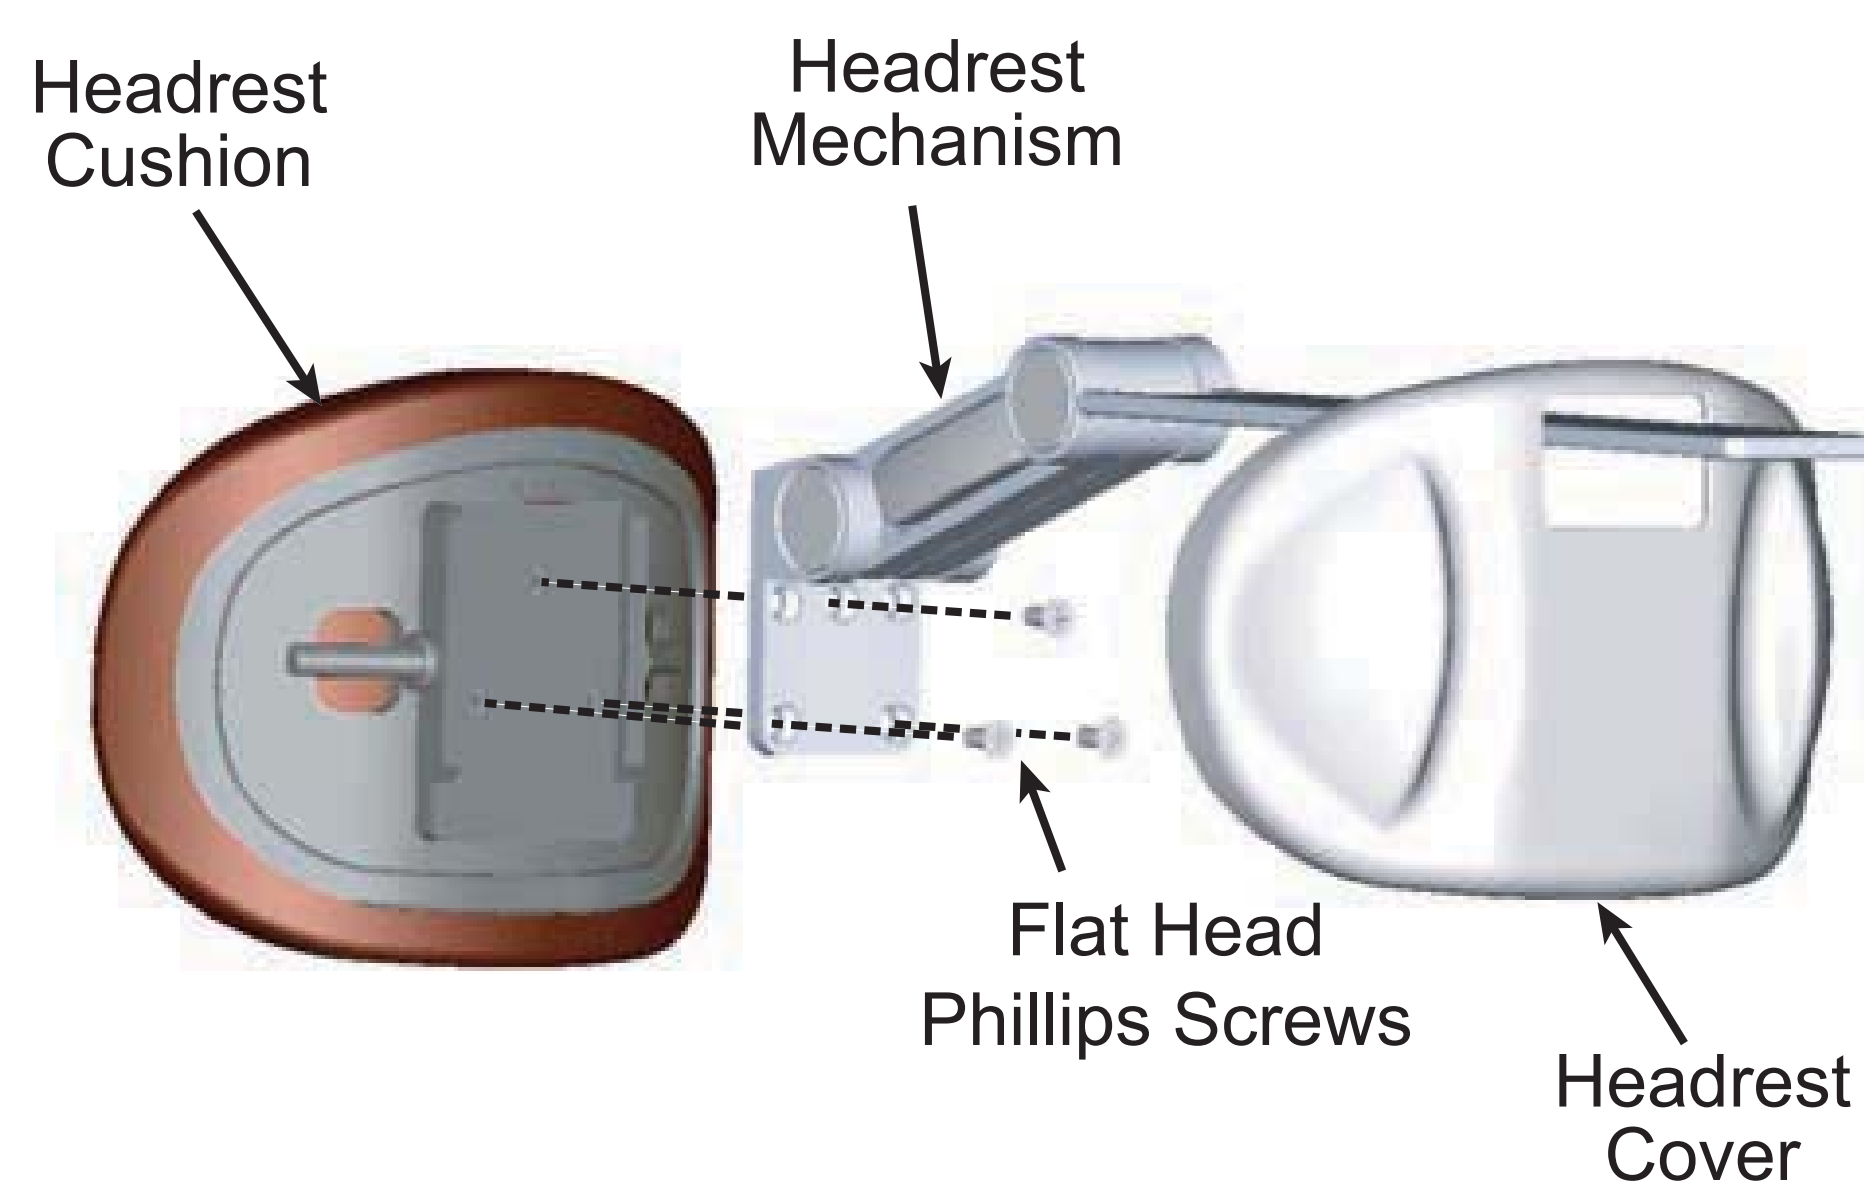

Fig. 5-8
2. Insert Headrest Mechanism bar through cut-out in Headrest Cover, as shown (Fig.5-8). Slide Headrest Cover over Headrest Mechanism and press firmly together with the Headrest Cushion.